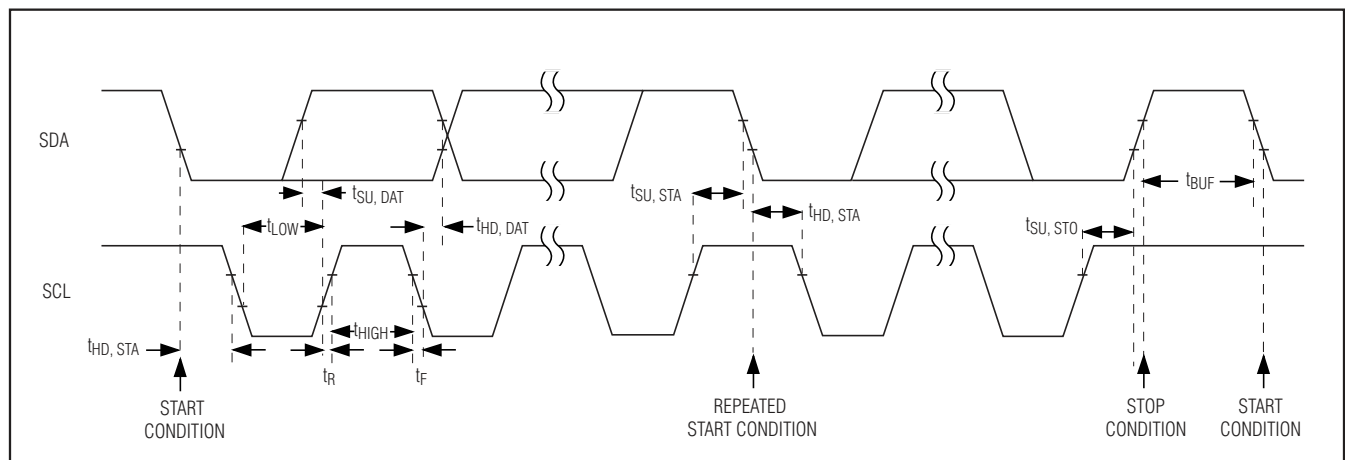

Figure 2. 2-Wire Serial Interface Timing Detail
issues a STOP (P) condition by transitioning SDA from low to high while SCL is high. The bus is then free for another transmission (Figure 2). Both START and STOP conditions are generated by the bus master.